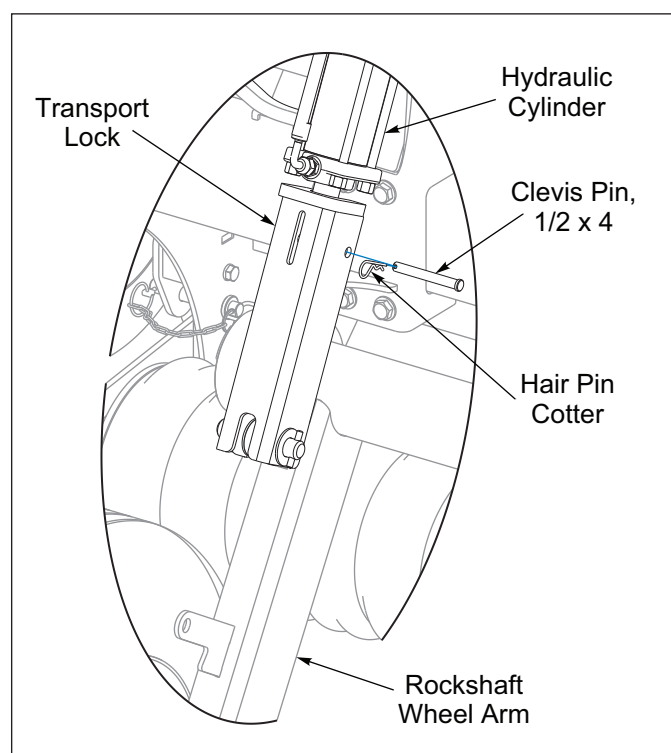

Figure 2-9: Transport Lock Engaged
8. Raise the Till 'N Seed and install Transport Locks. **See Figure 2-9.**